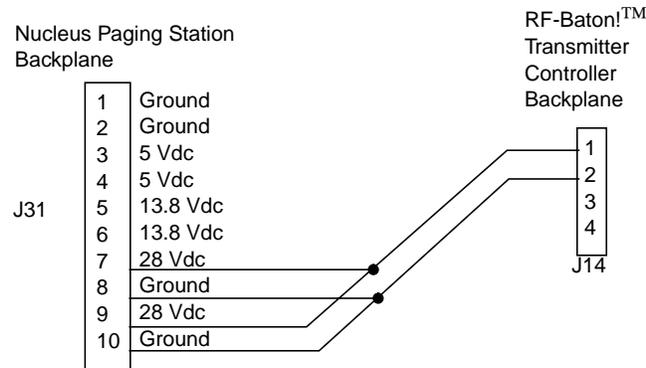

Figure 5-6: Connector J31 Output to an RF-B! Transmitter Controller
- Route the black/white connector to J14 on the RF-B! transmitter controller (see Figure 5-6). This connection uses four pins. The cable termination at J14 on the RF-B! transmitter controller is a four-pin connector.
- J31—the 10-pin DC power cable to the RF-B! transmitter controller. This connector uses four pins for the RF-B! transmitter controller interface (see Figure 5-6).